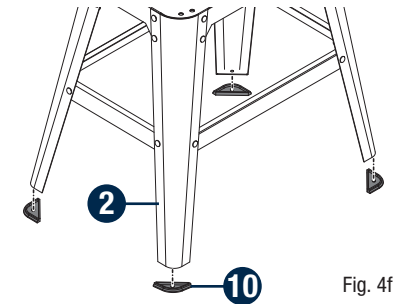

Fig. 4f
- Insert the rubber foot **10** into the bottom of each leg **2**. (Fig. 4f)